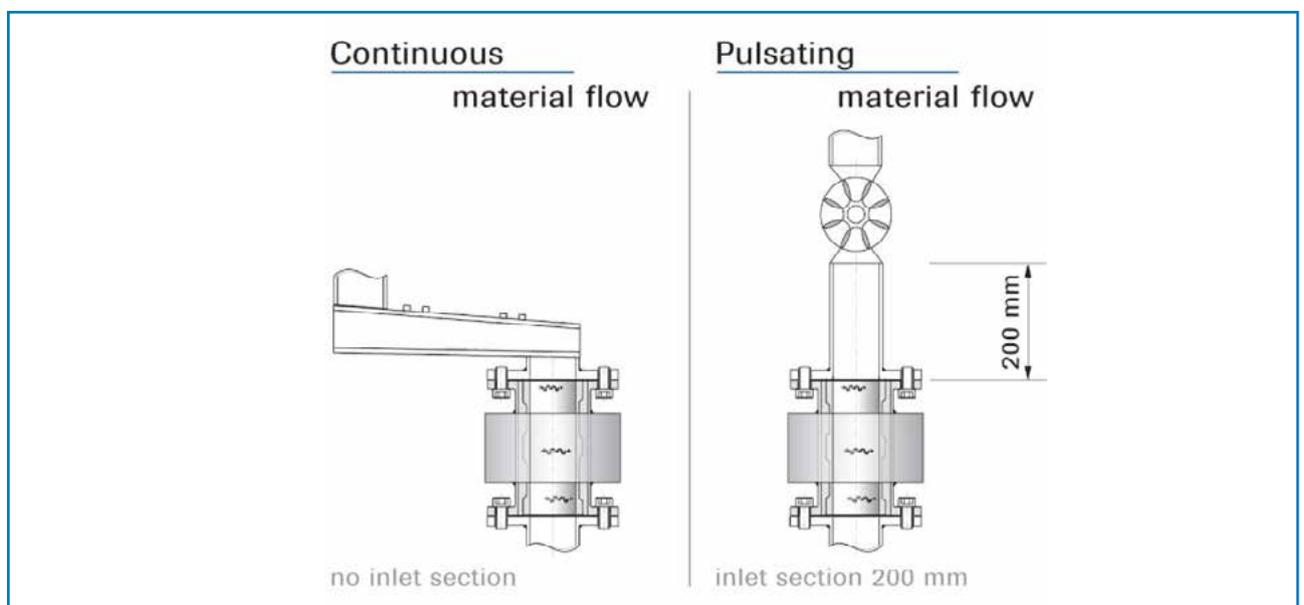

Fig. 4: Minimal distances of the sensor to control devices
- Ensure that the correct distance is selected from control devices, e. g. rotary valves, etc. As this will determine velocity criteria, (see fig. 4).
- Depending on the flow rates, the inlet sections may deviate from Fig. 4. A detailed layout design is done by ENVEA Process.